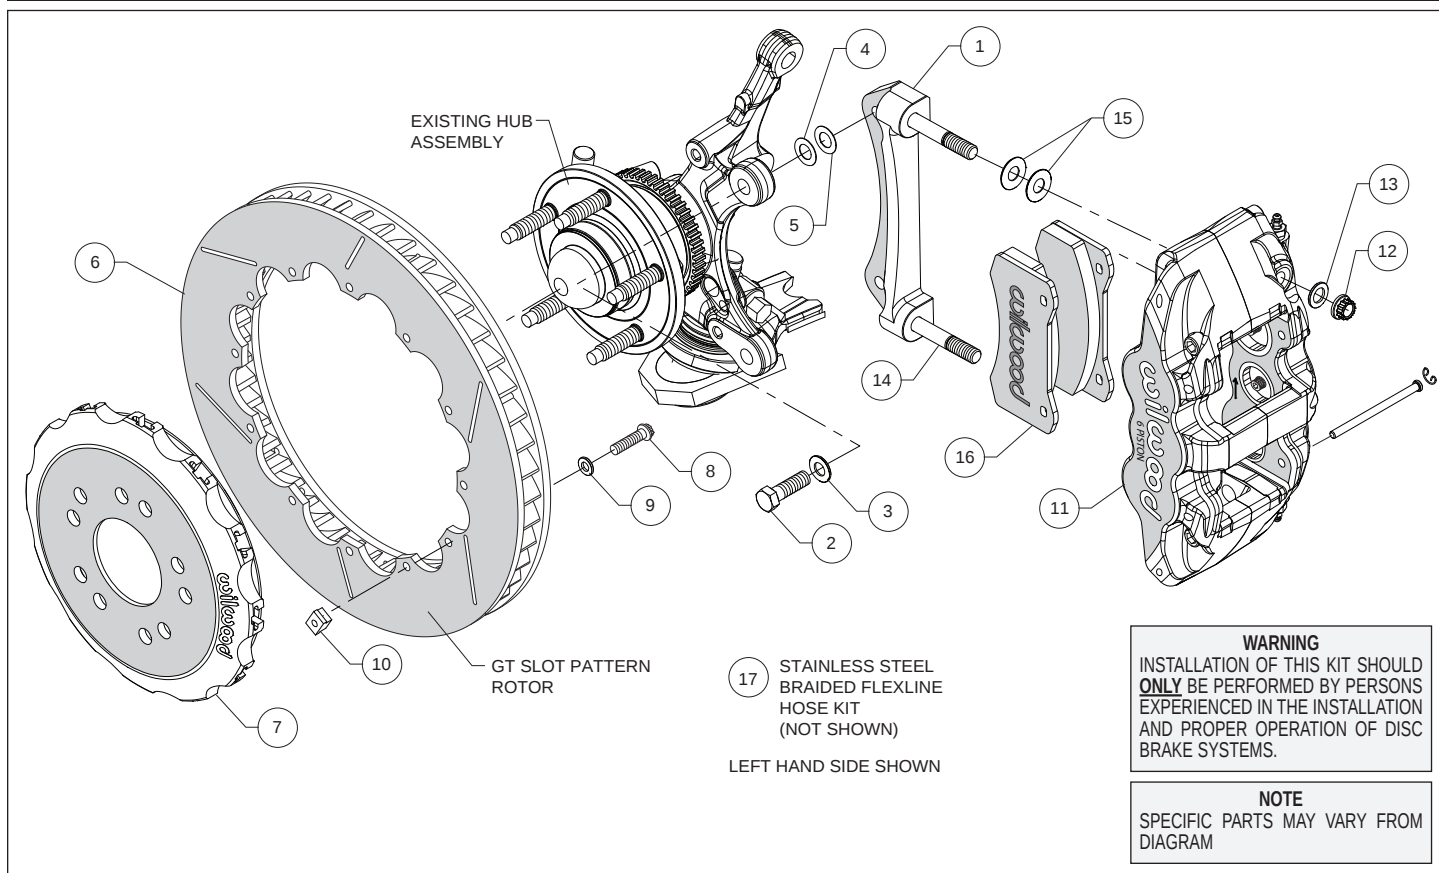
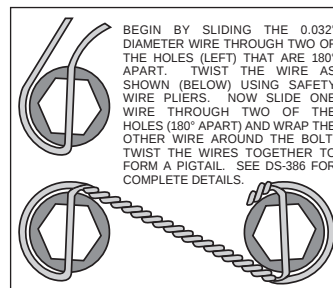

Figure 1. Typical Installation Configuration
Figure 4. Safety Wire Diagram
Assembly Instructions (numbers in parenthesis refer to the parts list and Figure 1 on the preceding pages):
- The caliper mount bracket (1) should initially be installed with clean, dry threads on the mounting bolts. Orient the bracket, as shown in Figure 1 and Photo 1, and install using bolts (2) and washers (3). Initially place one .033" thick shim (4) on each bolt between the bracket and upright, Figure 1. Temporarily tighten the mounting bolts. **NOTE:** The bracket must fit squarely against the mount bosses on the upright. Inspect for interference from casting irregularities, machining ridges, burrs, etc. Later, after the caliper alignment has been checked, the mount bolts will be secured using red *Loctite*® 271.
- Orient the rotor (6) and the hat (7) as shown in Figure 1 and Photo 2. Attach rotor to hat using bolts (8), washers (9), and t-nuts (10), Figure 1. Follow additional instructions included with the bolt kit. Using an alternating sequence, apply red *Loctite*® 271 to the threads, and torque to 120 in-lbs. For an added measure of security, the bolts may be safety wired using standard 0.032 inch diameter stainless steel safety wire as shown in Figure 4. Refer to Wilwood's data sheet DS-386 (available at www.wilwood.com/Pdf/DataSheets/ds386.pdf) for complete safety wire installation instructions.
- NOTE:** This kit contains distinct right and left hand calipers that must be mounted in a specific direction, as described below. Lubricate the caliper mounting studs (14) with lightweight oil. Initially place two .030" thick shims (15) on each stud between the caliper and the bracket, as shown in Figure 1 and Photo 4. Mount the caliper (11) onto the bracket (1) using lock nuts (12) and washers (13), Figure 1. Temporarily tighten the lock nuts. Ensure that the caliper is mounted so the largest pistons are at the rotor exit end of the caliper, in relation to the direction of the rotor. View the rotor through the top opening of the caliper. The rotor should be centered in the caliper, Photo 4. If not, adjust by adding or subtracting shims (4 and/or 5) between the bracket and the upright. Always use the same amount of shims on each of the two mounting bolts. Once the caliper alignment is correct, remove the bracket mounting bolts one at a time, apply red *Loctite*® 271 to the threads, and torque to 60 ft-lbs.
- Remove the two pad retaining pins from the caliper (11) by carefully popping out the pin retaining clips and sliding out the pins. Insert the brake pads (16) into the caliper from the bottom, Figure 1 and Photo 5. With the friction material facing the rotor, secure the brake pads in place with the pad retaining pins and clips, Photo 6. Reinstall the caliper onto the caliper mounting bracket and temporarily tighten the lock nuts. Check that the top of the brake pad is flush with the outside diameter of the rotor, Photo 7. If not, adjust by adding or subtracting shims (15) between the caliper and the bracket. After the caliper pad height is set, torque the caliper lock nuts (12) to 47 ft-lb.